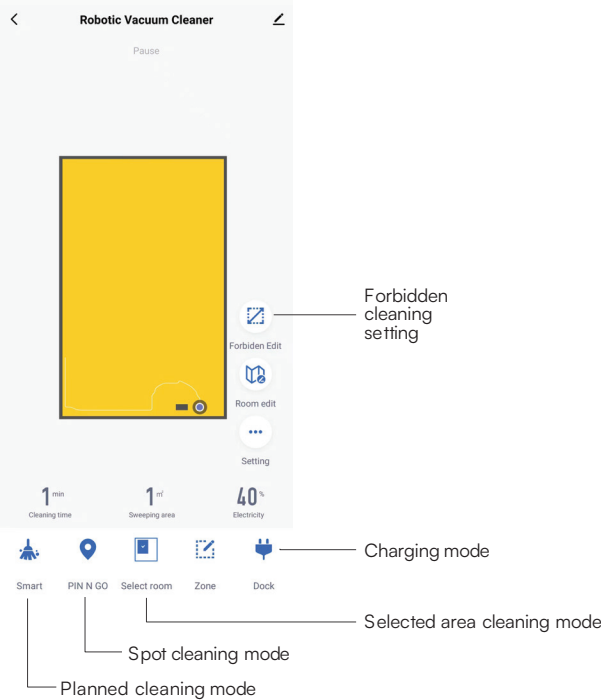

Fig 17
1. APP interface page allows you to control the device remotely offering multiple features (Ref Fig 17).